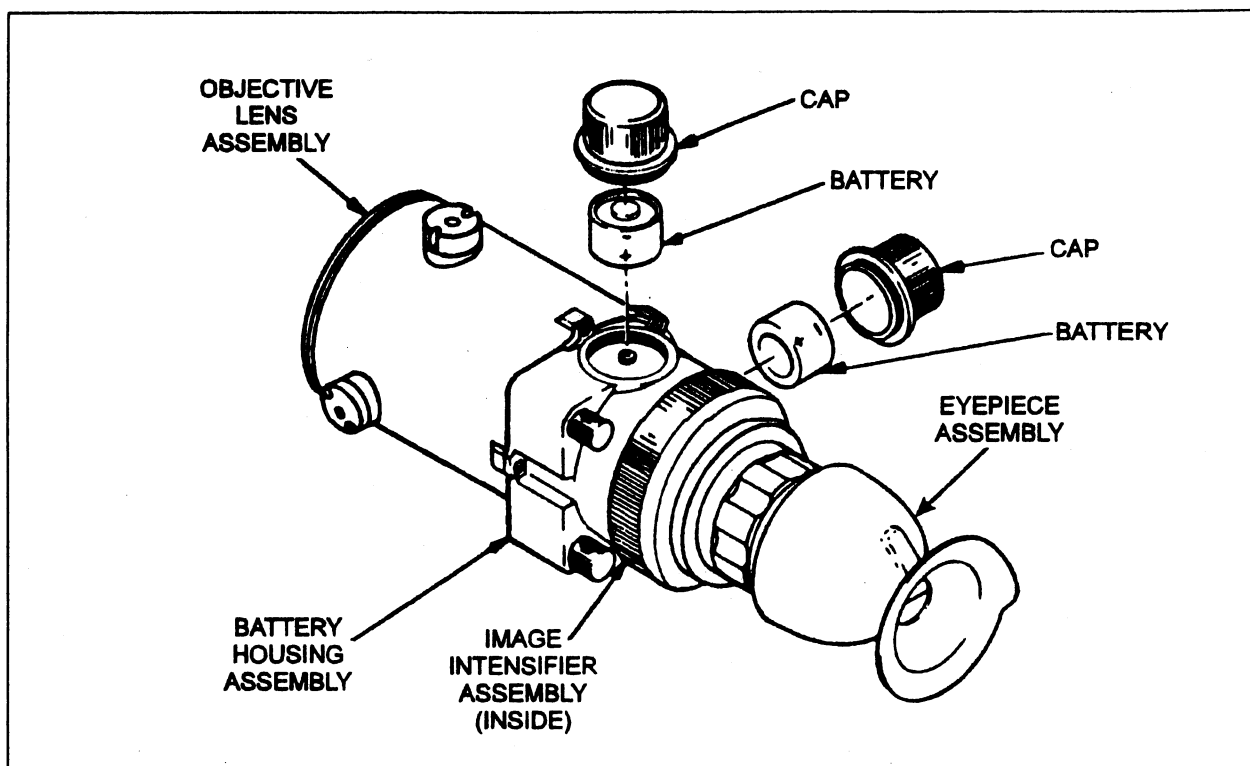

Fig 2-6. Top left side view of AN/PVS-4.
Figures 2-6 and 2-7 show the components of the AN/PVS-4. Descriptions of the functions of some of the components are provided below. As you read the descriptions, study figures 2-6 and 2-7 to note the location of that component.
a. General. After you have correctly mounted the AN/PVS-4 night vision sight on your M240G, you must adjust it for proper vision. As you follow the steps below to adjust for proper vision, refer back to figures 2-6 and 2-7 to determine the location of the controls.
- (1) Press your eye against the eyepiece to open it. Maintain only enough pressure to keep it open.
- (2) Turn the on-off tube brightness control knob clockwise. Adjust the brightness of the images to the lowest setting that provides the best target-to-background contrast.
- (3) Turn the on-off reticle brightness control knob clockwise. Adjust the brightness of the reticle pattern to the lowest level that gives you a clearly visible pattern.
- (4) Adjust the diopter focus ring until the reticle pattern is in the clearest possible focus.
- (5) Adjust the objective focus ring until the target is in the clearest possible focus.
- (6) Repeat brightness control adjustments after you complete focus adjustments. This will result in even lower brightness settings.
- (7) When you have completed all adjustments, turn off both on-off control knobs until you are ready to engage a target. If you do this habitually, you will greatly increase your battery life.